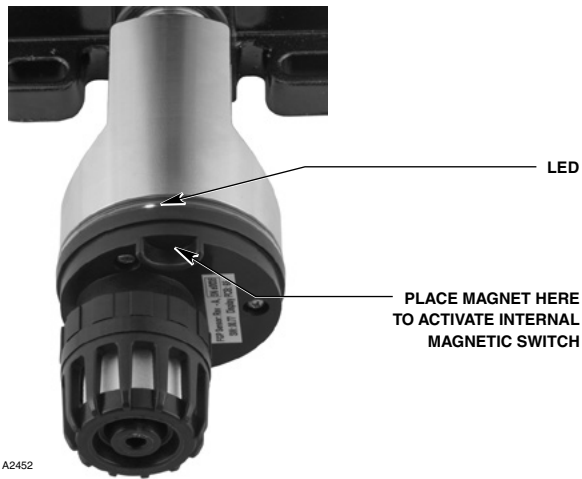

Figure 5—Location of Magnetic Switch on GT3000 Detector
- A. Hold the calibration magnet against the designated location on the sensor module (see Figure 5) until the green LED turns off and the yellow LED turns on steady (approximately one second).